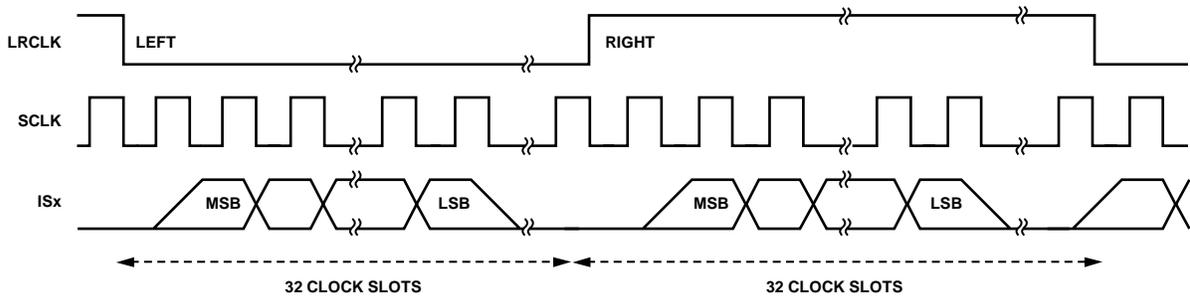
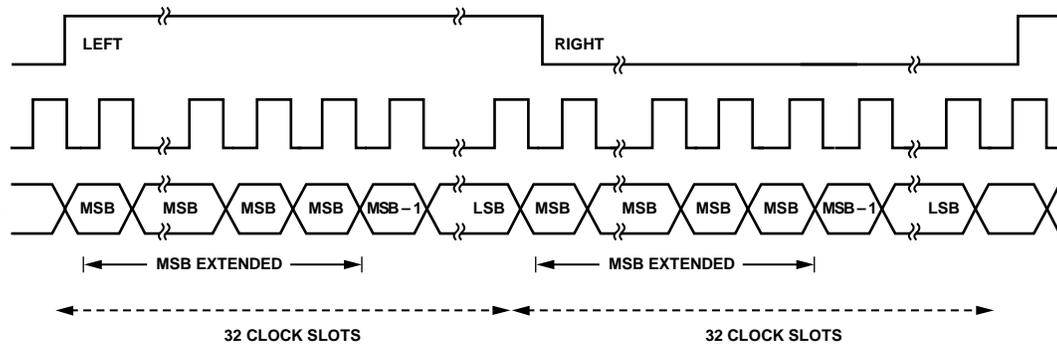
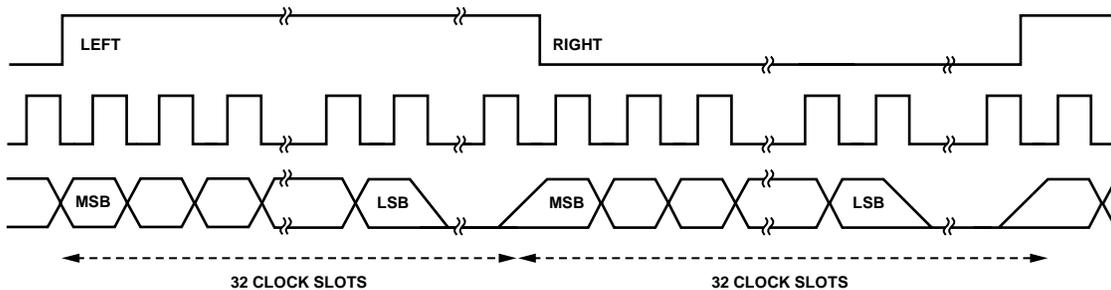

Figure 20. Timing Audio Data Output in I2S Mode
Figure 21. Timing Audio Data Output in Right Justified Mode
Figure 22. Timing Audio Data Output in Left Justified Mode
- L-PCM audio data is output on the audio output pins if the part received audio sample packets with L-PCM encoded audio data. Each audio output pin carries stereo data that can be output in I2S, right justified, or left justified mode (refer to Figure 20, Figure 21, and Figure 22). The I2SOUTMODE[1:0] control must be set to 0x0, 0x01, or 0x2 to output I2S, right justified, and left justified respectively on the audio output pins.
- I2SOUTMODE must be set to 0x0, 0x01, or 0x2 for I2S, right justified, and left justified format, respectively (refer to Figure 20, Figure 21, and Figure 22).
- **OVR\_MUX\_HBR** is set to 1, **MUX\_HBR\_OUT** is set to 0, and **I2SOUTMODE[1:0]** is set to 0x0 for an I2S mode binary stream (refer to Figure 20).
- **OVR\_MUX\_HBR** is set to 1, **MUX\_HBR\_OUT** is set to 0, and **I2SOUTMODE[1:0]** is set to 0x1 for a right justified stream (refer to Figure 21).
- **OVR\_MUX\_HBR** is set to 1, **MUX\_HBR\_OUT** is set to 0, and **I2SOUTMODE[1:0]** is set to 0x2 for a left justified stream (refer to Figure 22).